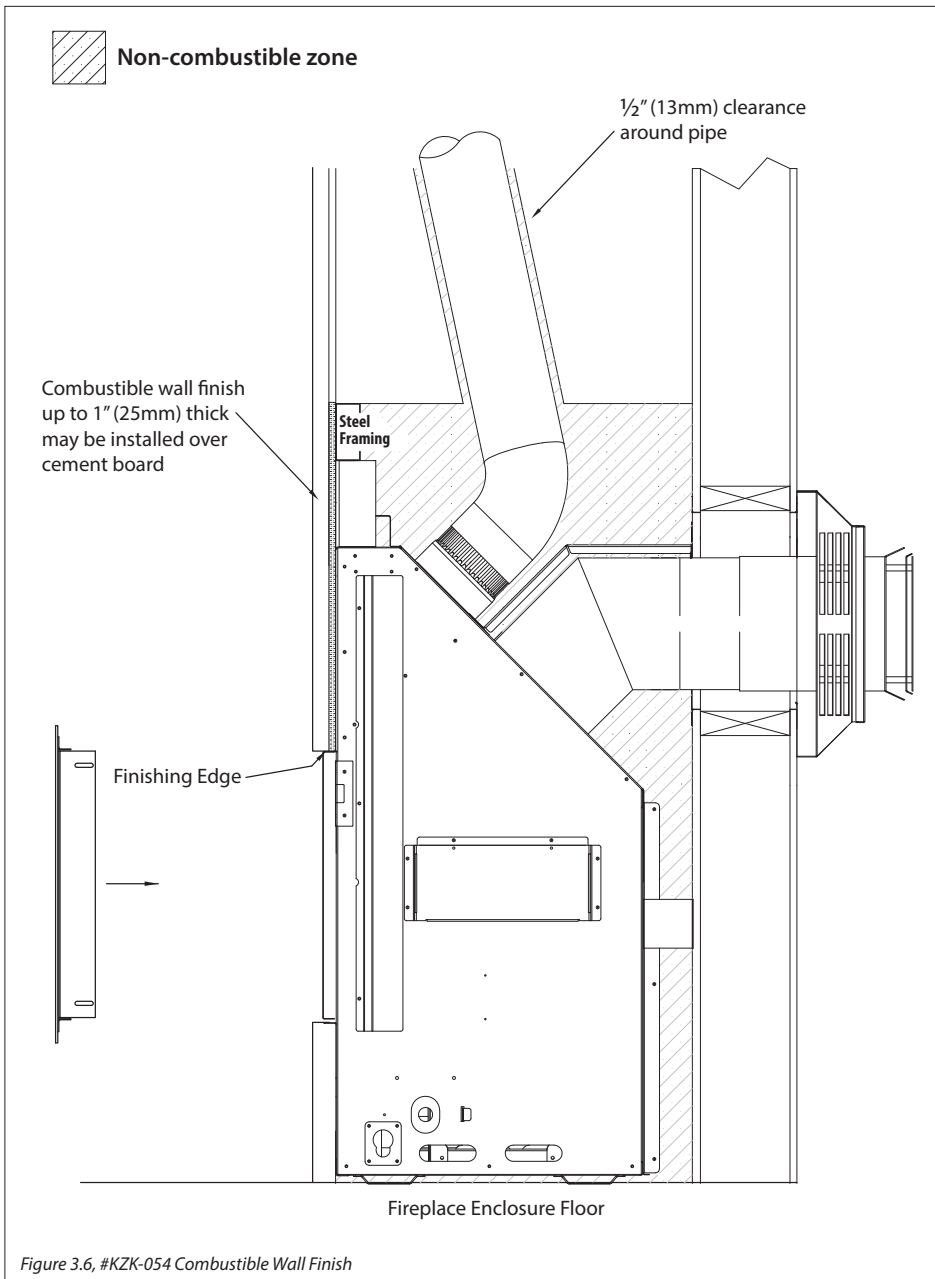

Figure 3.6, #KZK-054 Combustible Wall Finish
- Figure 3.6 shows installation of combustible wall finish up to 1" thick. This combustible material goes on any required non-combustible materials as shown in Figure 3.1 on page 10.